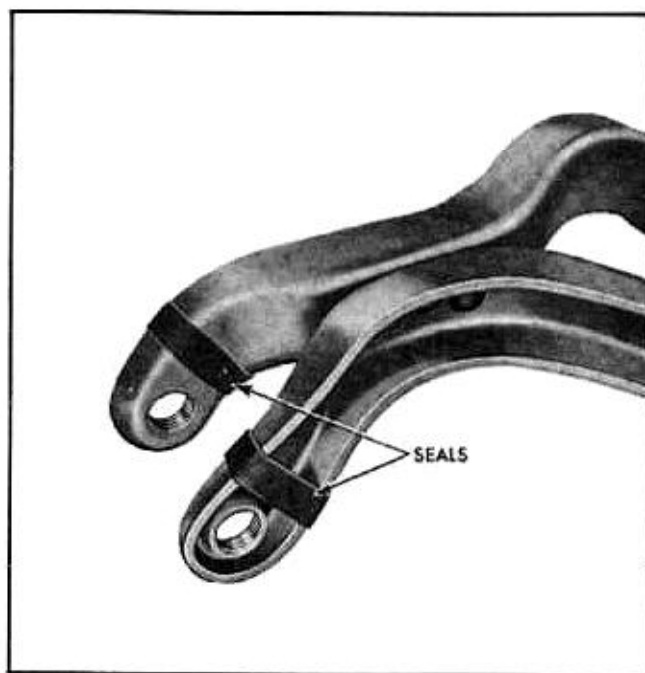

Fig. 3-17 Seals Positioned for Assembly of Pivot Pin
1. Position seals over ends of upper control arms as shown in Fig. 3-17.